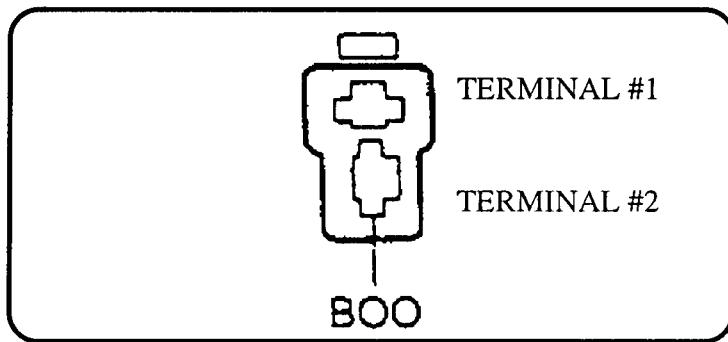

Figure 71
**Brake On Off Switch:** The Boo switch is a simple on off switch by the brake pedal. When the brake pedal is depressed, 12 volts should be seen at terminal 2. Refer to figure 71 for terminal identification.